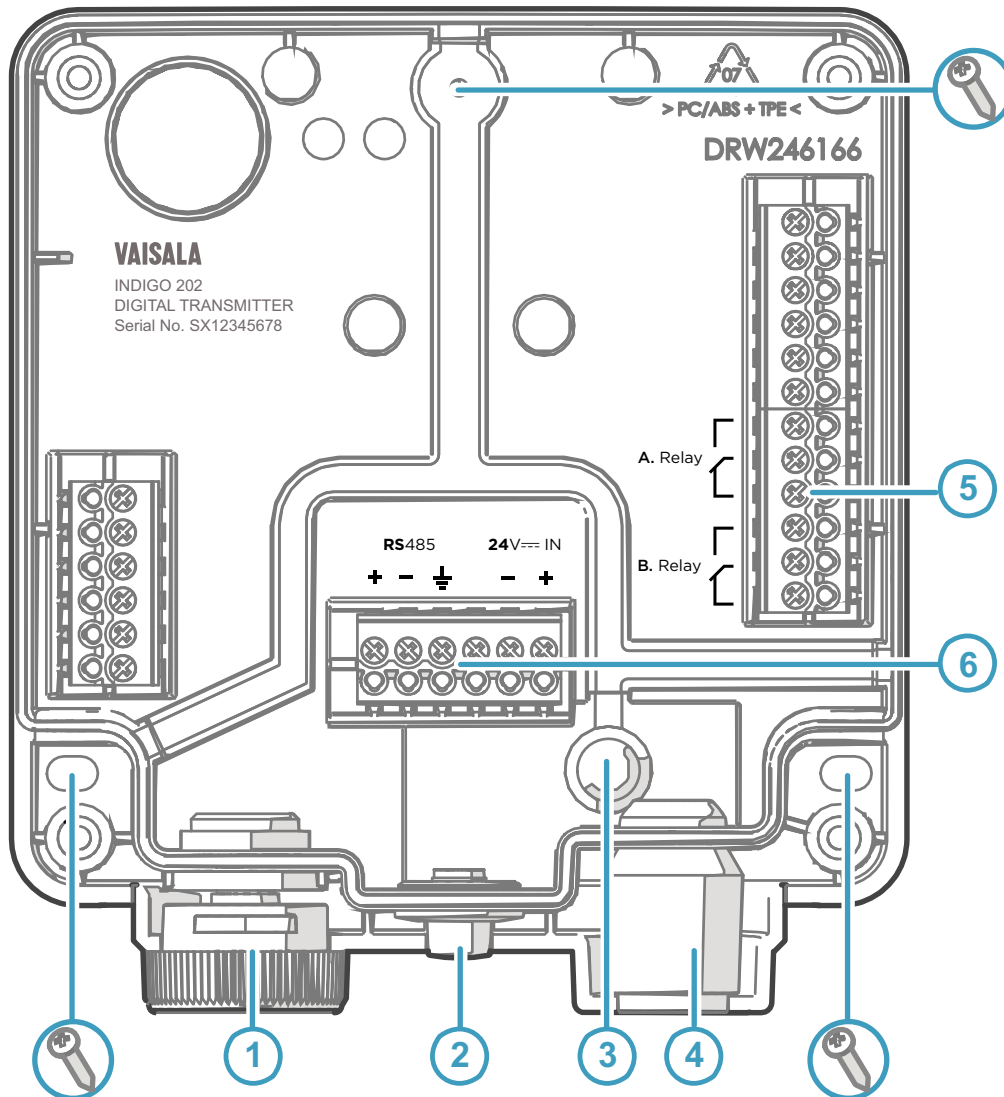

Figure 9 Indigo 202 Transmitter Base Main Parts and Screw Positions
4. Place the transmitter base on the installation surface and mount it with 3 screws. See the screw positions in Figure 9 \(page 16\).